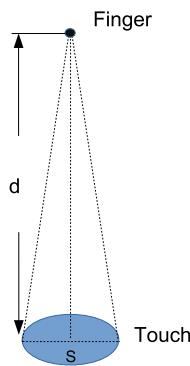

Figure 39.2-6. Sensing Area
- The maximum detection distance (d) is 16 cm with a sensing area of 20 cm^2 (S), where d is positively correlated with S as shown in Figure 39.2-6.